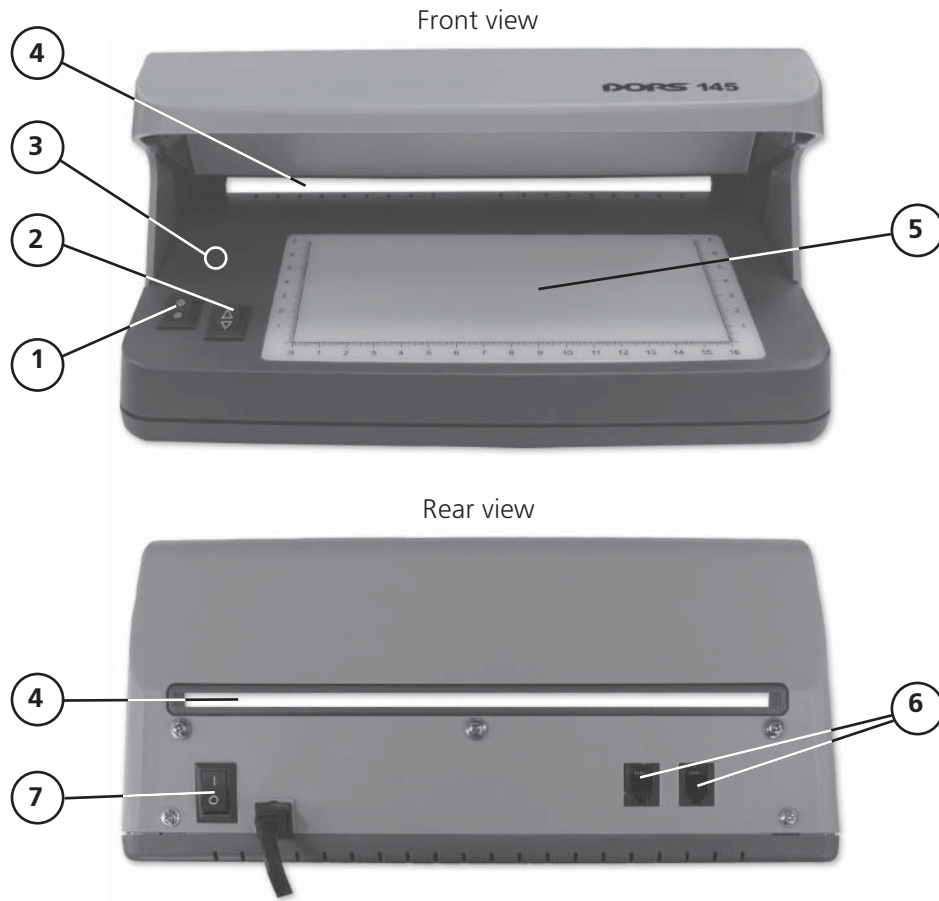
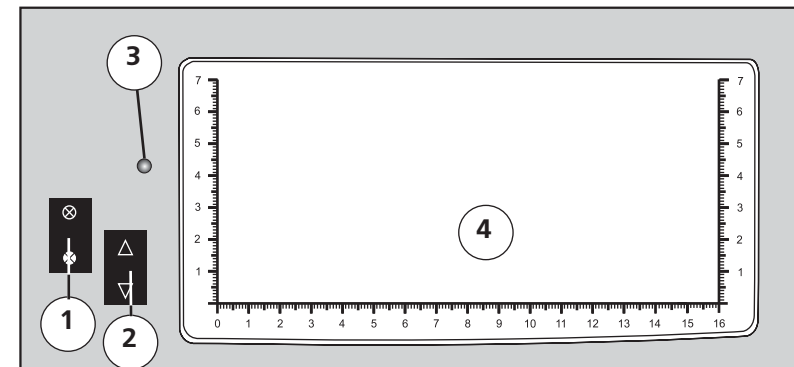

Fig. 1
Fig. 2
1. Connect the detector to the wall outlet (220V, 50 Hz). Power switch indicator (fig. 1, pos. 3) will switch on. Switch the detector on with the **Power switch** on the back side of the detector (fig. 1, pos. 7) – the viewing zone (fig. 2, pos. 4) lightens blue or white, depending on the switch position "UV/white light".
2. Place one or several banknotes at the front panel of the detector within the viewing zone (fig. 2, pos. 4).
3. Use the UV/white light switch on the front panel (fig. 2, pos. 2) to choose:
Use the switch (fig. 2, pos. 2) to select the white light control mode: